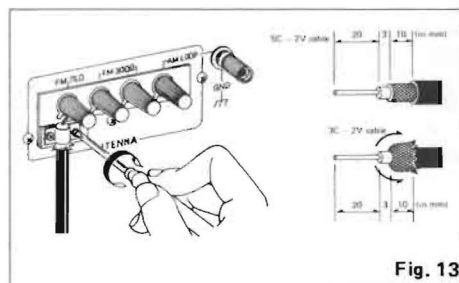

Fig. 13
- 75-ohm antenna with coaxial lead (Fig. 13)